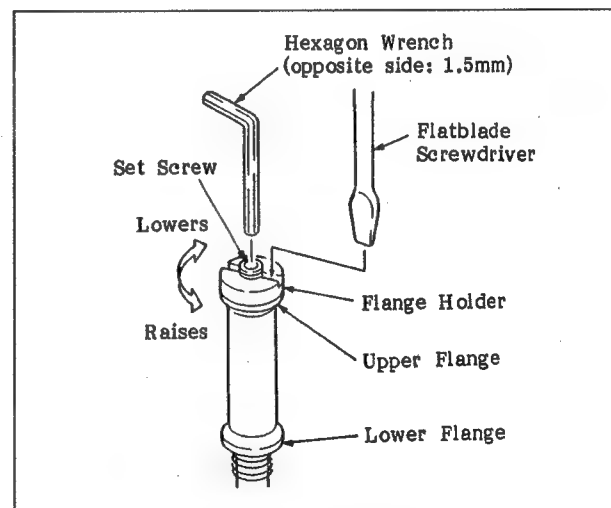

Fig. 6-122 Adjustment of the Height of the T6 Guide
12. Push the reel table height adjustment tool against the T6 guide, as shown in Figure 6-121. Check that the tool is in contact with the upper flange. If it is not, adjust it by loosening the set screw that holds the T6 guide and by rotating the flange holder, as shown in Figure 6-122.